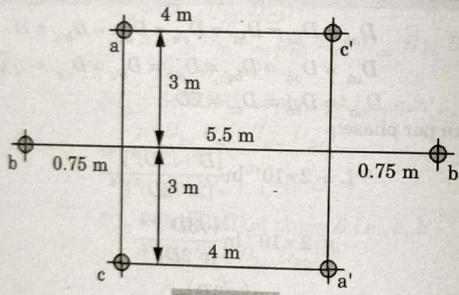

Fig. 4.10.1.
**Que 4.10.** Find the inductance per phase per km of double circuit 3-phase line system shown in Fig. 4.10.1. The conductors are transposed and are of radius 0.75 cm each. The phase sequence is abc.